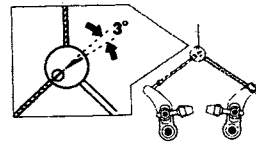

Fig. 33 -
Step 6 - Using a Fourth Hand tool, pull the cable through the anchor bolt until the end of the housing rests against it. Viewing the face of the carrier, continue pulling until the angle of the left side cable is in a straight line with the line on the carrier. Pull a little further until it matches the angle shown in figure 33.